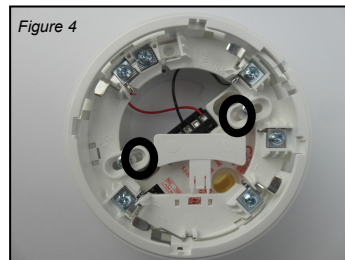

Figure 4
2. Fix the assembly securely either to a rear electrical box or directly to the ceiling surface. For mounting hole positions (figure 4) use suitable round or dome crosshead screw with narrow shank (e.g. 6 mm) screwdriver.